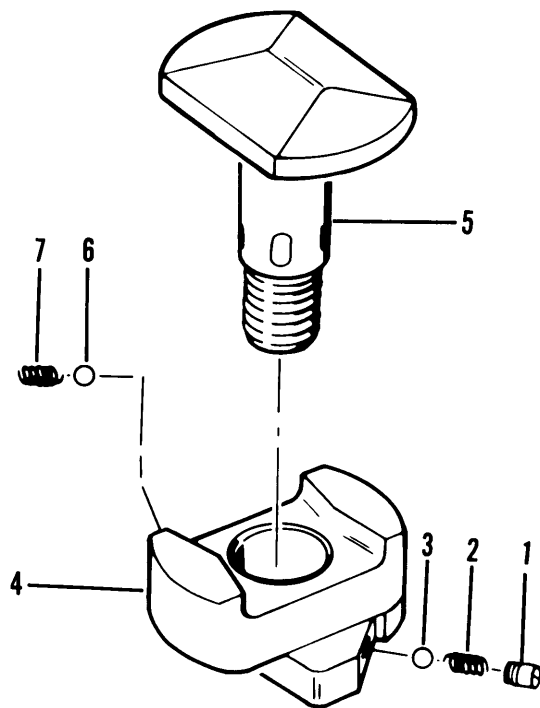
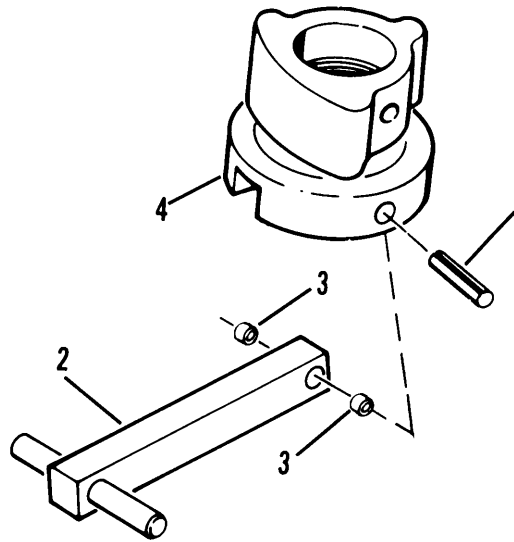

Figure 4-47. Retractable Twist Lock Upper Assembly
Figure 4-48. Retractable Twist Lock Lower Assembly
- (a) Remove setscrew (1, fig. 4-47), spring (2) and ball (3).
- (b) Separate locator block (4) and bayonet (5).
- (c) Remove ball (6) and spring (7).
- (2) Lower assembly.
- (a) Remove pin (1, fig. 4-48).
- (b) Remove handle (2) and two spacers (3) from base cap (4).
(1) Lower assembly.
(a) Install handle (2, fig. 4-48) and two spacers (3) to base cap (4).
(2) Upper assembly.
(a) Place spring (7, fig. 4-47) and ball (6) into position.